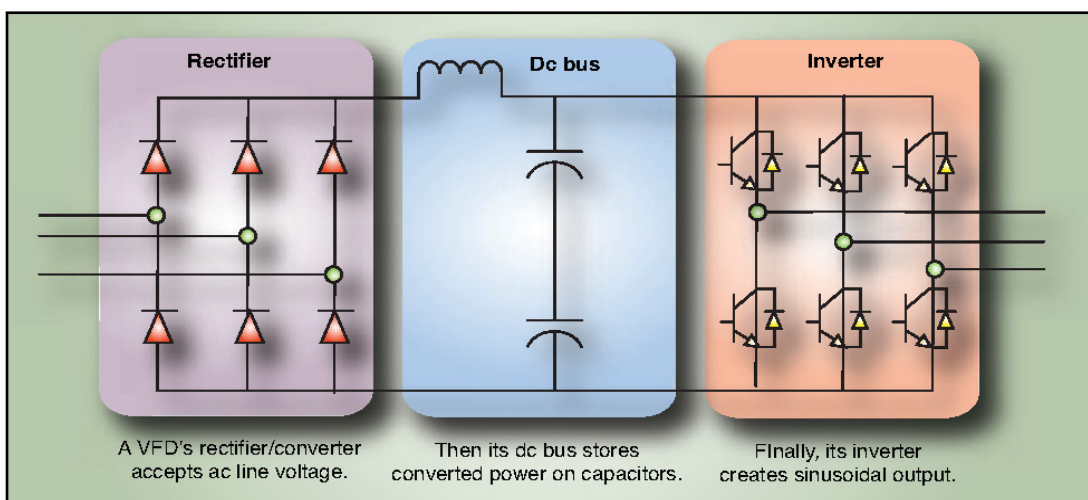

Figure 2: VFD basics: Existing Technology 1
Since most large power supplies are three phase, there will be a minimum of 6 rectifiers used (see Figure 2). Appropriately, the term “6 pulse” is used to describe a drive with 6 rectifiers. A VFD may have multiple rectifier sections, with 6 rectifiers per section, enabling a VFD to be “12 pulse,” “18 pulse,” or “24 pulse.”
The front-end of a drive contains a diode bridge that takes AC power and charges a capacitor bank in the dc bus described above (see figure 2 above). With diodes that is a one way trip. The capacitor bank is connected to the motor via the inverter section of the VFD. The inverter and it's IGBTs is bi-directional. If the motor becomes a generator, the resulting current flowing through the inverter section begins to charge and potentially overcharge the capacitor bank. Most drives have the ability to shut down to protect the VFD from this overvoltage. Some drives switch on a resistor to dump the excess energy. In this case, the VFD is not really regenerative, although the motor does not know any better. For an application with a high duty cycle, resistors are costly.
1. Figure 2